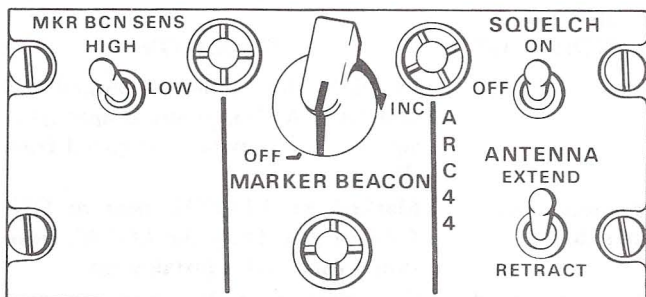

Figure 3-12. Miscellaneous Radio Switch Panel (61-2408 thru 61-2425)
- Squelch control On miscellaneous switch panel (figure 3-12). At ON, the squelch circuit is to the AN/ARC-44 radio. At OFF, the squelch circuit is disconnected to permit reception of weak signals.
- ANTENNA position switch On the miscellaneous radio switch panel (figure 3-12). At extend, the FM antenna is extended. At retract, the antenna is retracted. DC to operate the antenna is from the 28-volt radio bus.